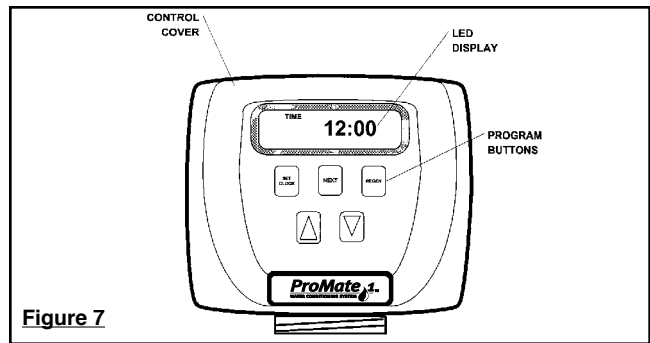

Figure 7
The display panel (see Figure 7) consists of the LCD display, power light, and five push buttons which are used in displaying and programming the water softener settings.
4. Now plug the transformer into a 110-volt receptacle. (Be certain the outlet is uninterrupted.) Within 5 seconds the control will automatically align itself into the softening mode and the display will flash 12:00 (am). (Figure 7, page 7).